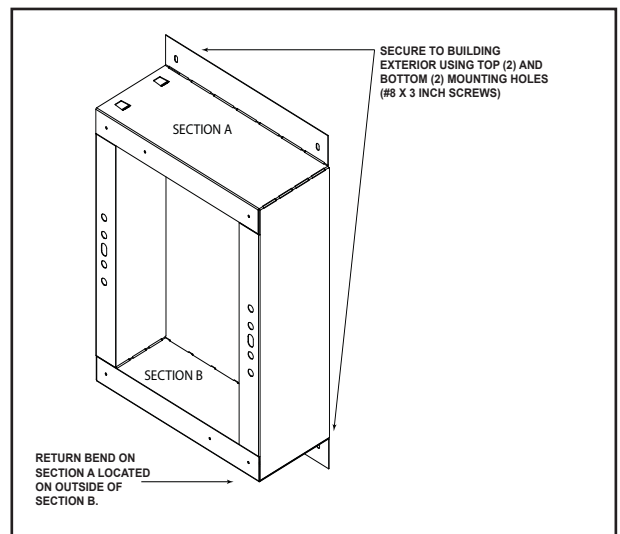

Figure 2.9 BEK Assembled
6. Use the formed tabs to assemble the box as shown in Figure 2.9. The return bend on section A should be located on the outside of section B.